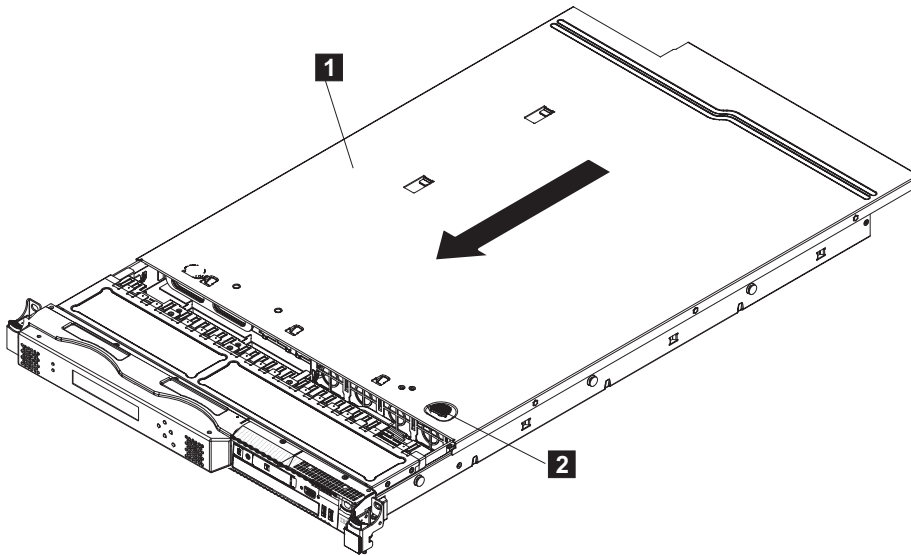

Figure 68. Replacing the SAN Volume Controller 2145-CG8 or 2145-CF8 cover
4. Slide the cover toward the front of the node, as shown in Figure 68.